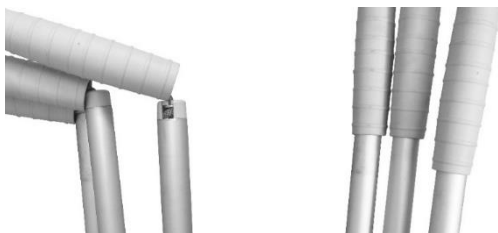

Fig. 35. Close view of connectors.
2. Unfold it, then insert the poles into connectors (fig. 35).